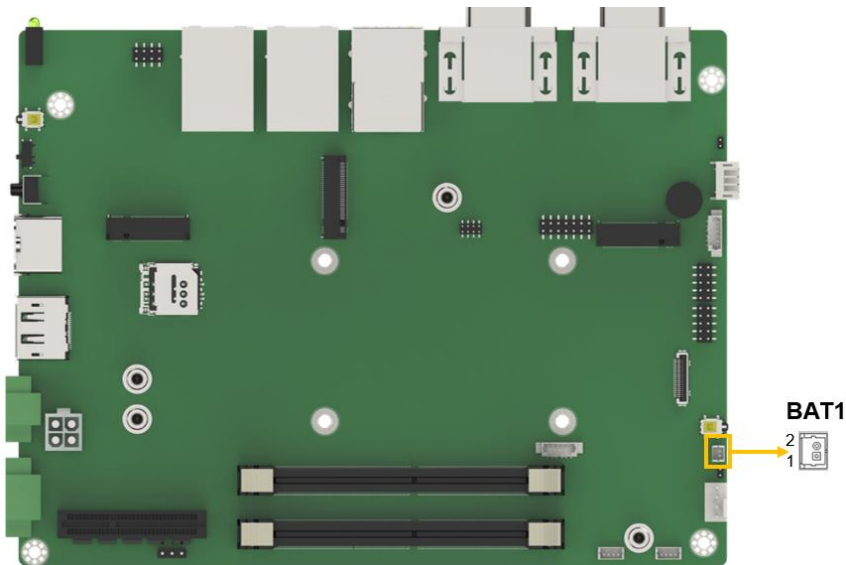

Figure 4-3: Battery Connector Location
- CN Location:** See **Figure 4-3**